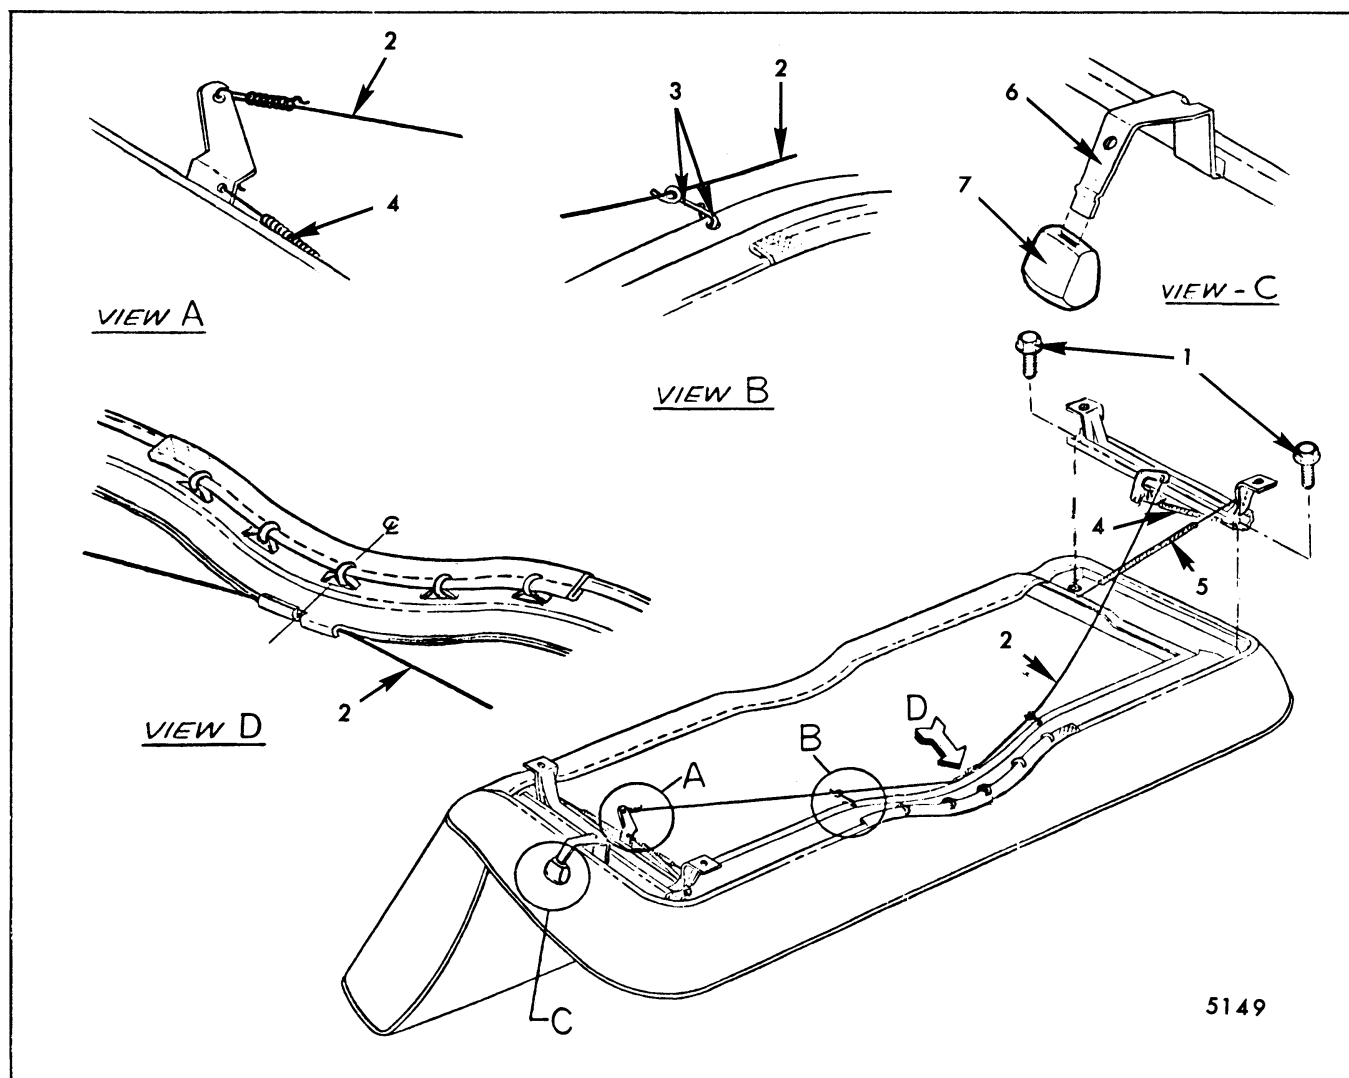

Fig. 9-18-Manual Seat Adjusters - Typical of Full Width Seat Manual Adjusters (Except "A" Body Styles)
- Fig. 9-18-Manual Seat Adjusters - Full Width Seat
After installing adjuster to seat frame, check operation of adjusters. If on full width seats the adjusters do not lock or unlock satisfactorily when control handle is operated, disengage locking wire retainer from hole in seat bottom frame and engage retainer in one of adjacent holes to obtain proper tension in wire (see Fig. 9-18).